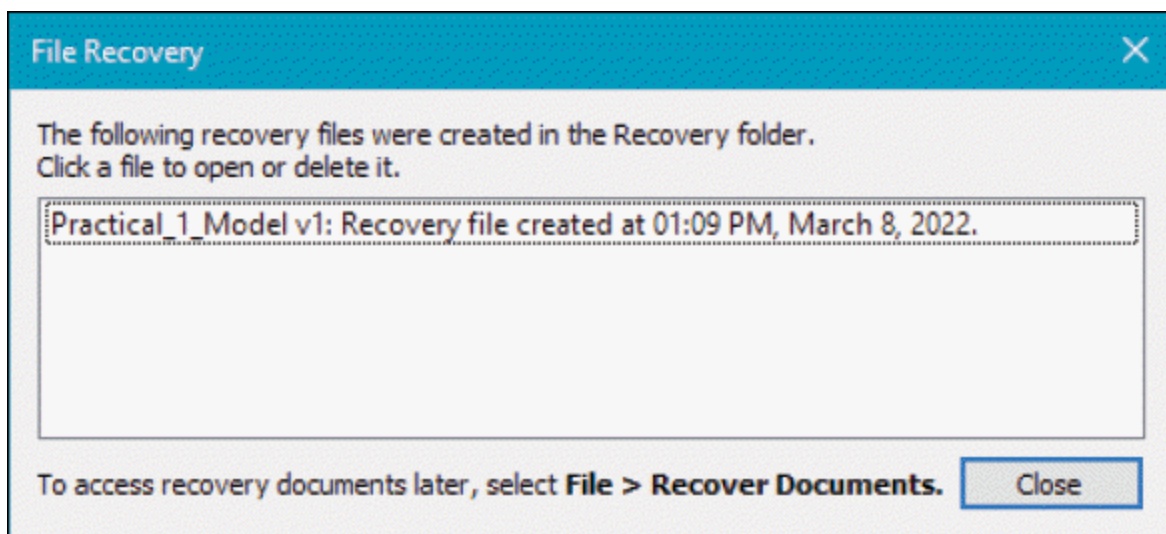

Figure-17. File Recovery dialog box
- Click on the **Recover Documents** tool from the **File** menu. The **File Recovery** dialog box will be displayed where you need to select auto save version of your file; refer to Figure-17.